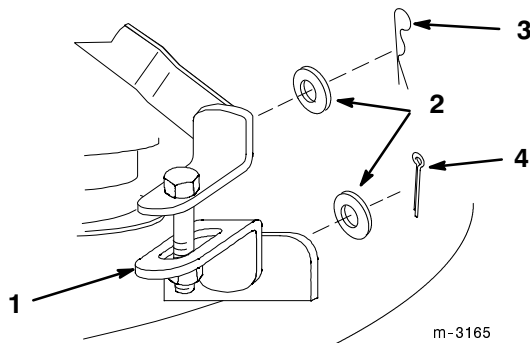

Figure 7
8. Install adjustable link between front bracket and lift arm with two washers (3/8 in.), a hairpin cotter (2-9/16 in.), and a cotter pin (1 in.) (Fig. 7).